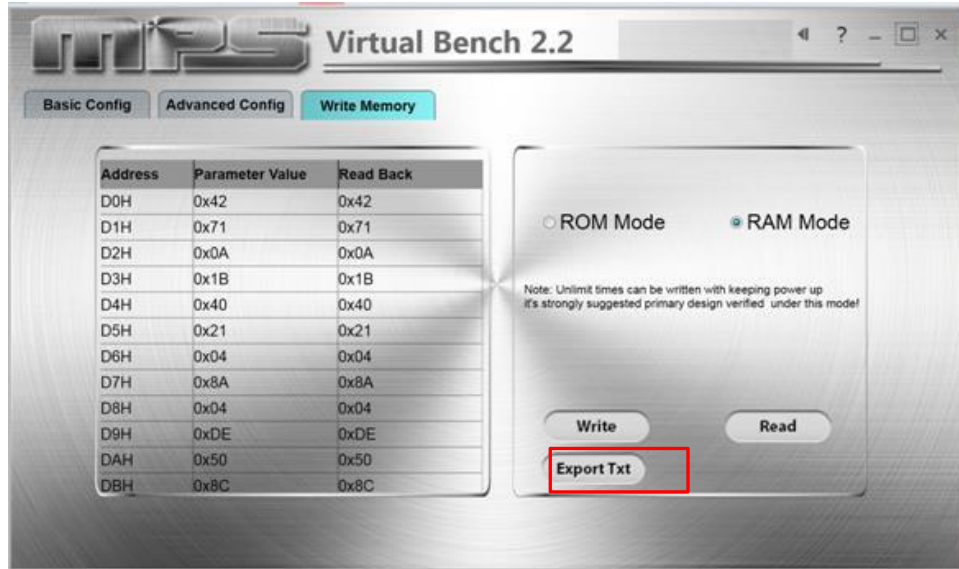

Figure 14: Export Version
6. Click the "Export" button to export the data of your setting (see Figure 14).